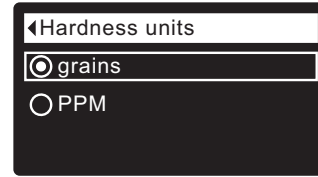

FIG. 59
1. From any of the rolling status screens, press the SELECT (O) button to display the **Main menu**.
3. Press the SELECT (O) button to display the User preferences menu.
5. Press the SELECT (O) button to display the Hardness units menu (See Figure 59).
6. If the desired hardness unit already has a dot next to it (See Figure 59), go to Step 7. Otherwise, press the DOWN (▼) or UP (▲) buttons to scroll to the other hardness unit, then press SELECT (O) to choose it.
7. Press the SELECT (O) button. The display will go back to the User preferences menu.